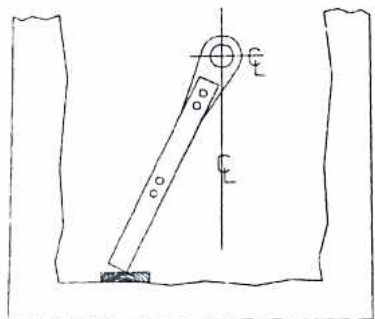

Figure 2
10. Attached to the air motor is an aluminum handle. An aluminum extension bar bolts to the handle. The extension bar is adjustable so it will rest on the ground (see Figure 2) to prevent the motor from rotating. If the pit is damp, place a 1"x4"x12" long block of wood under the the extension bar and parallel to the centerline on the tapping machine. This will prevent the bar from digging into the soil and lets it slide along with the cutter shaft as the cut is being made.